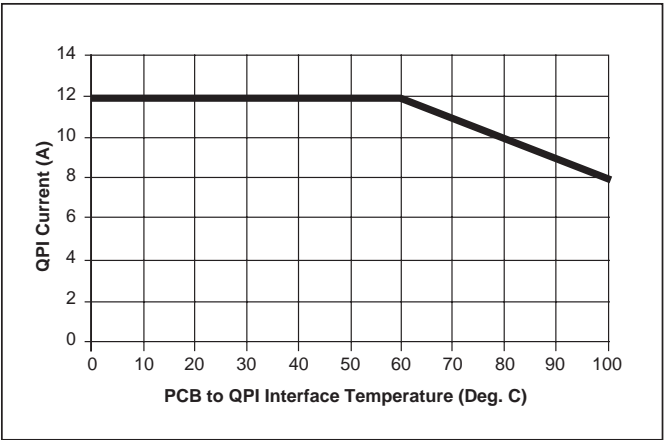
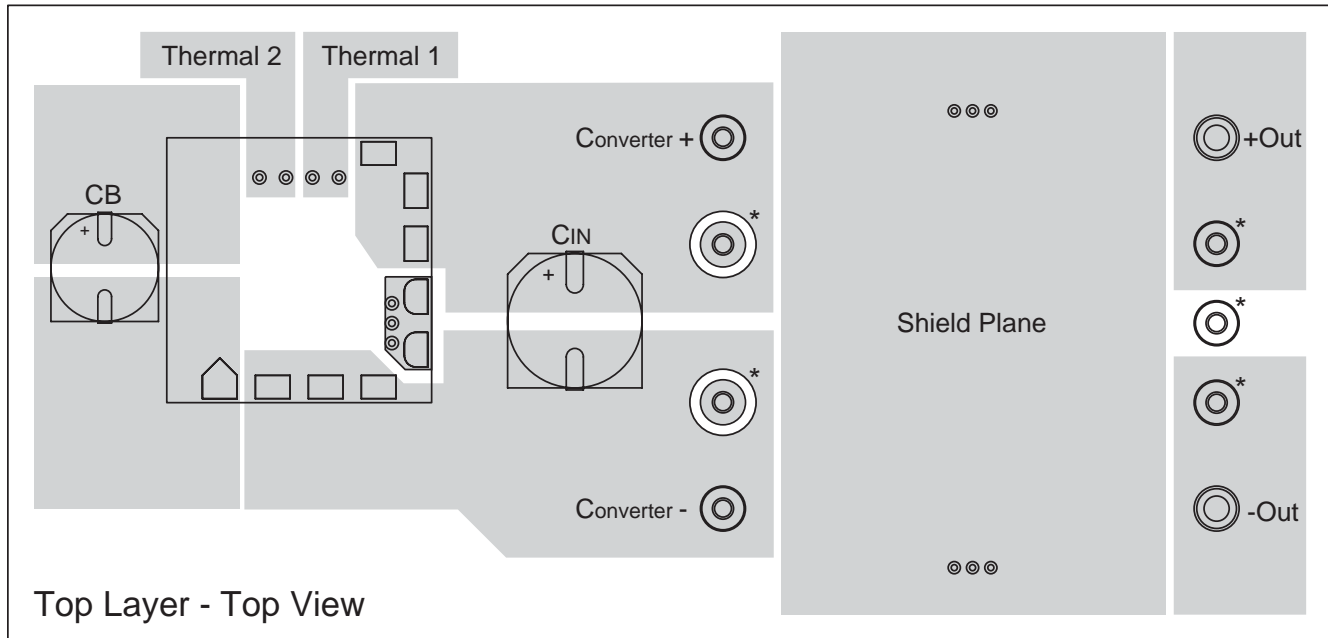

Figure 5 – QPI-2 current derating curve.
Figure 9 – Recommended layout for top layer of PCB. Pattern shows optional pins (*) dependent on converter used in design.
- -40° to +100°C PCB temperature (See Fig. 5)
Note 1 - Refer to Figures 9 & 10 for PCB layout guidelines to achieve this thermal resistance when re-flowed onto the PCB.
Note 2 - Refer to Figure 5 for current derating curve.
Application of the QPI-2 requires PCB layout practices similar to those used with passive EMI filters. The circuit in *Figure 6* and the PCB layout in *Figures 9 & 10* should be used as a design guide to ensure successful application of the QPI-2. Refer to the application note QPI- AN1 for additional PCB layout recommendations.
The current derating curve shown in *Figure 5* should be used when the PCB temperature in close proximity of the QPI-2 exceeds 60°C. For example, the QPI-2 will support up to 10 A of current or 280 W from a 28 Vdc bus at an 80°C interface temperature. Temperature should be measured at the PCB interface to the QPI-2 on the Bus +/- pads or the QPI+/- pads. Refer to *Figures 9, 10 & 12* for PCB layout recommendation.
Figure 12 –Recommended PCB layout pattern. Use 1.3mm clearance around shield pads 5 & 6 to adjacent lands. See Figures 9 & 10 for recommended connection layouts.